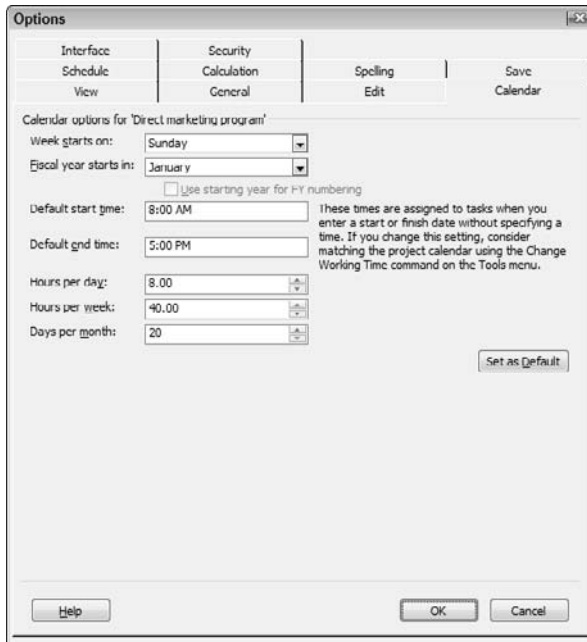

Figure 4-2: Define your typical working day, week, month, and year.
2. Click the Calendar tab, as shown in Figure 4-2.